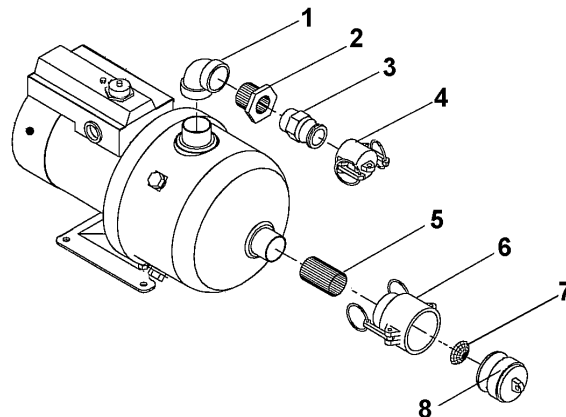

Figure 1. Raw Water Service Pump.
1. Remove male camlock (3) and dust cap (4) . See Figure 1.
2. Remove bushing (2) and elbow (1) from the pump.